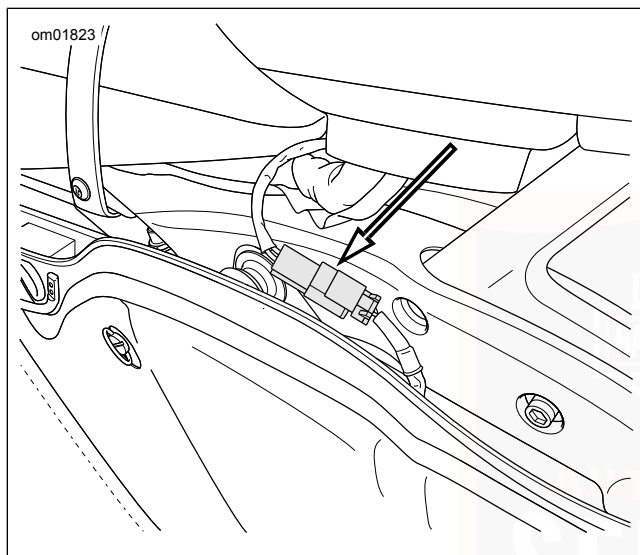

Figure 33. Saddlebag Power Lock Connector
2. See Figure 33. Disconnect the saddlebag power lock connector.
4. See Figure 33. Connect the saddlebag power lock connector.